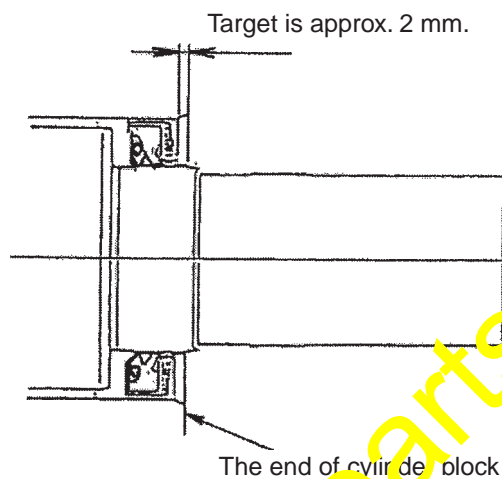

Fig. 2: Seal press fitting depth
- ① Apply the lithium grease (G2-L1) to the lip portion, and apply the engine oil to the periphery.
- ② The press-fitting depth is 2 mm from the block surface. (Refer to Fig. 2.)
- ③ When press-fitting the seal, in order to avoid the deformation of metal ring portion, make the below-mentioned jig (refer to 3)) and use it.